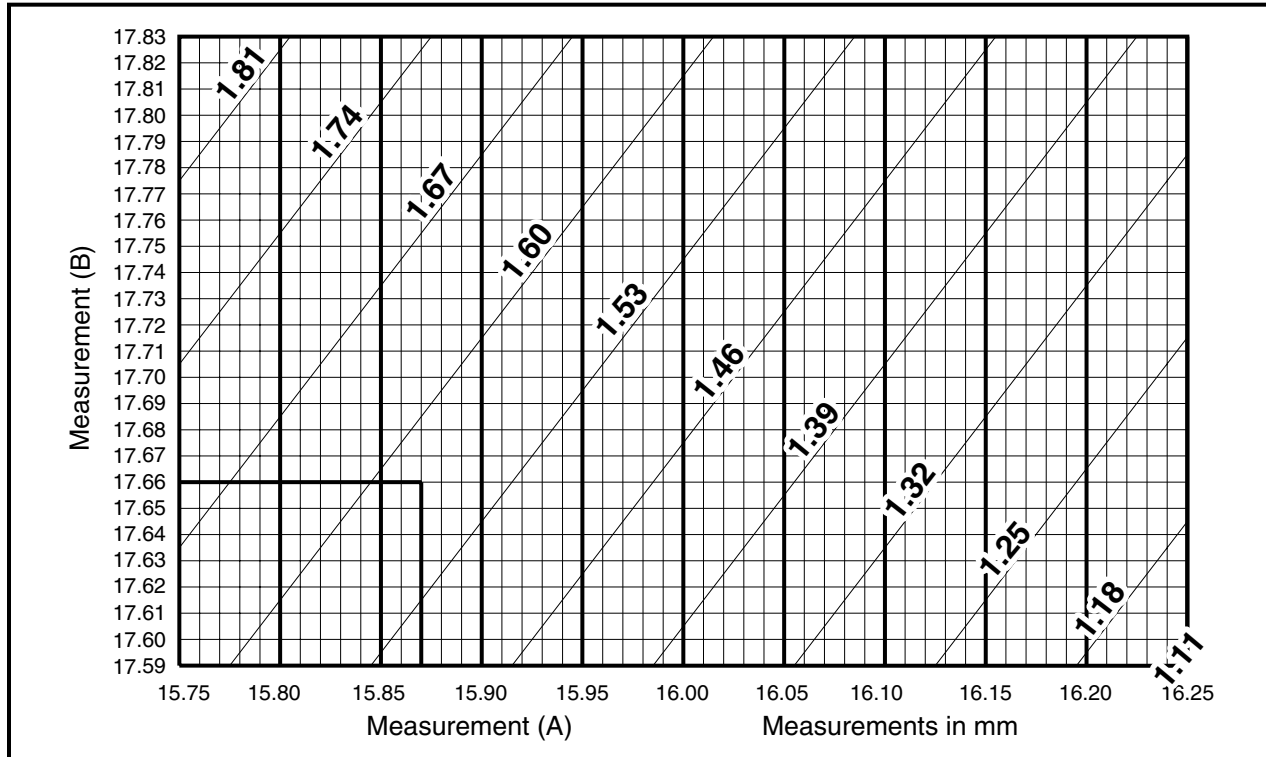

Figure 18-92 Crankshaft Shim Table
3. Locate the measurements on the Crankshaft Shim Table. Follow lines to where the recorded measurements intersect (Figure 18-92, Page 18-43).